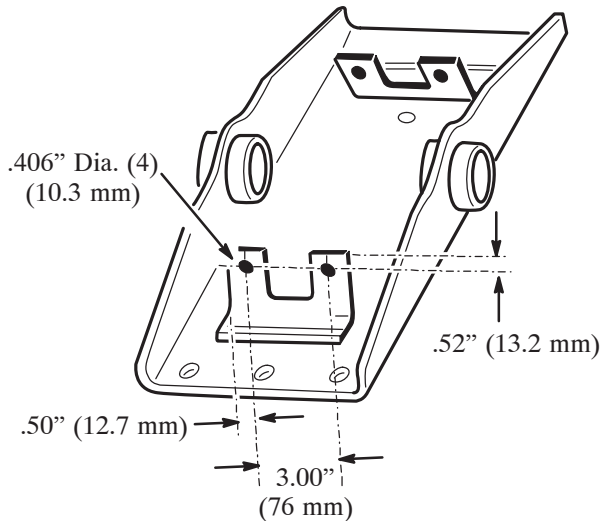

Figure 4
13. Using the dimensions shown in figure 4, locate, mark and drill (4) .406" dia holes in the inner flanges of the axle stops. Touch up with paint.